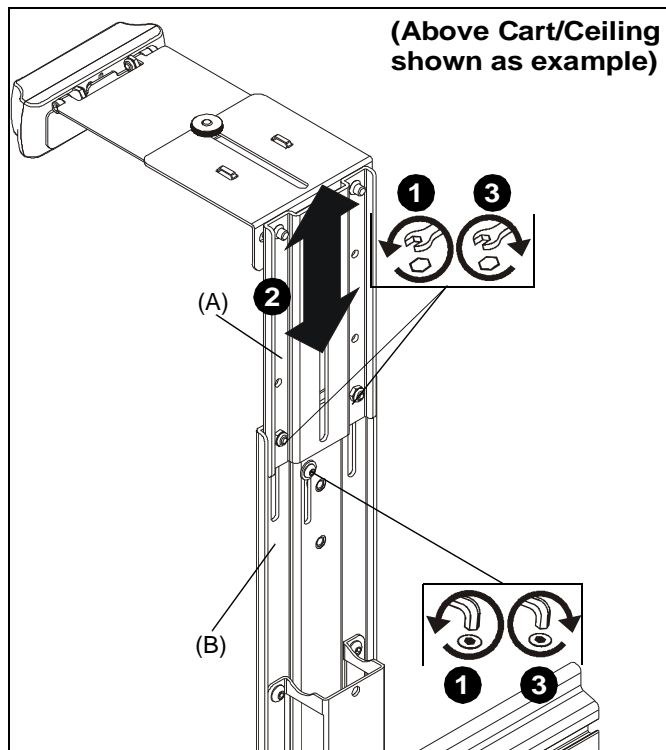

Figure 36
1. Loosen hardware used to attach main bracket (B) to upright bracket (A). (See Figure 36)
2. Adjust camera height as desired. (See Figure 36)
3. Tighten hardware used to attached main bracket (B) to upright bracket (A). (See Figure 36)